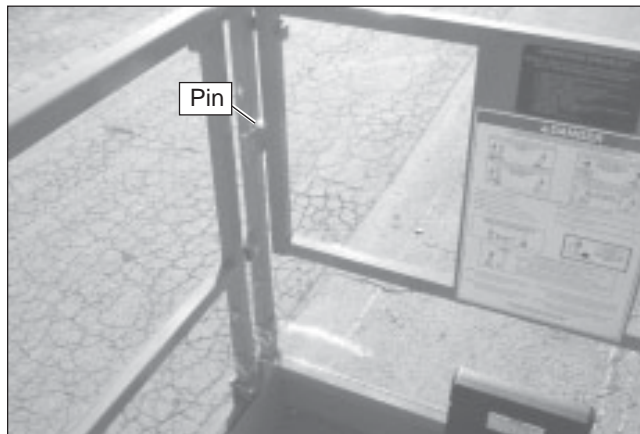

Figure 9.7 – Platform Front Panel
- Remove the pin that connects the front panel to the guardrails on the left side of the platform (refer to Figure 9.7). Fasten the front panel to the mid rail on the right side of the platform.